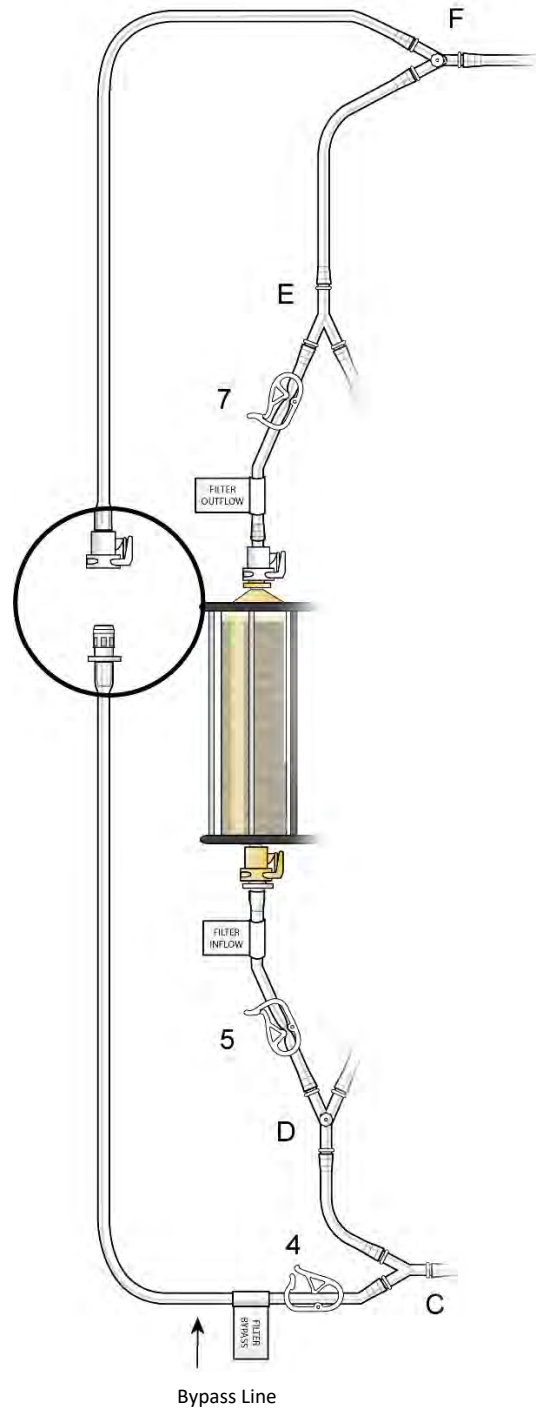

Figure 9
- (h) Assemble the two ends of the bypass line by pushing the quick connectors together (push and click), see Figure 9.